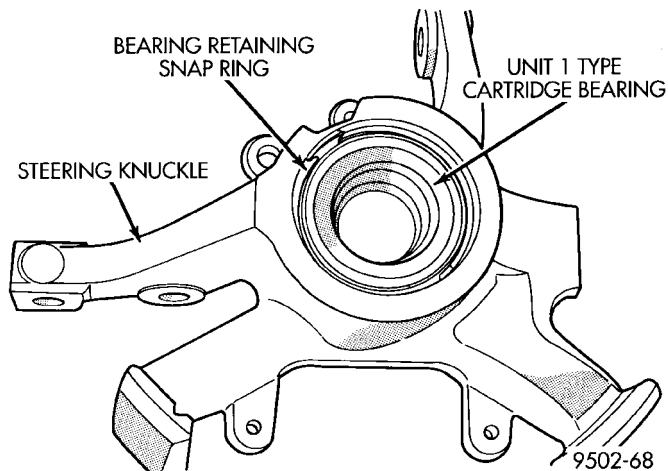

Fig. 50 Hub Bearing Retaining Snap Ring Installed
(5) Install hub bearing retaining snap ring into snap ring groove in hub bearing bore of steering knuckle (Fig. 50). Be sure snap ring is fully seated in snap ring groove.